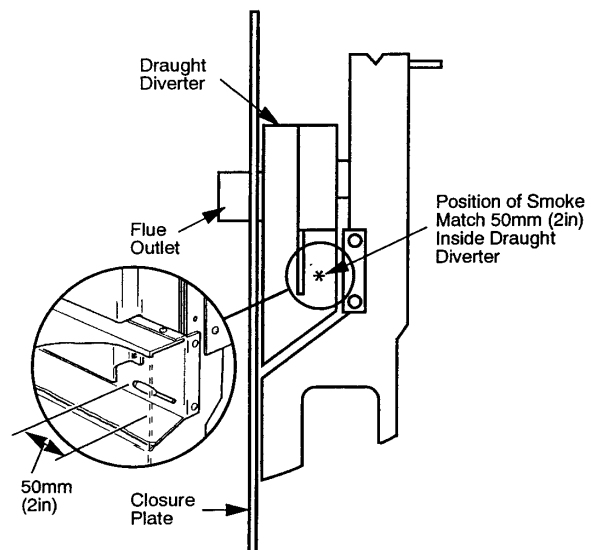

Fig. 8 Test for Spillage
- (d) The fire should be checked visually for the absence of spillage by holding a smoke match 50mm (2in) inside the draught diverter behind the fire ensuring that the smoke is drawn into the flue outlet (Fig.8). If there is any doubt repeat the test after a further 10 minutes. If spillage still persists the chimney may be faulty. The cause of the fault **MUST** be identified and corrected before leaving the fire installed. **IF THE FAULT CANNOT BE CORRECTED, TURN OFF AND DISCONNECT THE GAS SUPPLY TO THE FIRE - SEEK EXPERT ADVICE.**